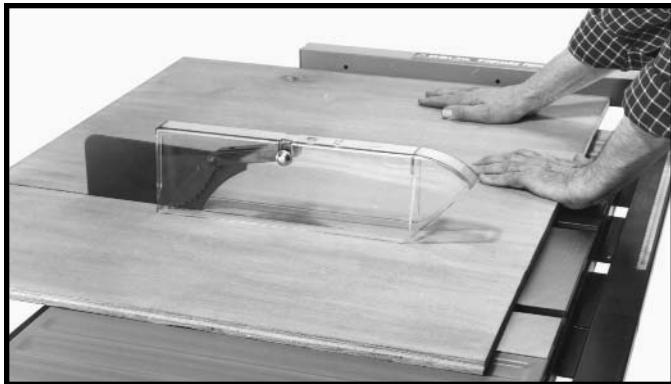

Fig. 49
Ripping is the operation of making a lengthwise cut through a board, as shown in Fig. 49, and the rip fence (A) is used to position and guide the work. One edge of the work rides against the rip fence while the flat side of the board rests on the table. Since the work is pushed along the fence, it must have a straight edge and make solid contact with the table. The saw guard must be used. The guard has anti-kickback fingers to prevent wood kickback, and a splitter to prevent the wood kerf from closing and binding the blade.
Start the motor and advance the work holding it down and against the fence. Never stand in the line of the saw cut when ripping. Hold the work with both hands and push it along the fence and into the saw blade as shown in Fig. 49. The work can then be fed through the saw blade with one or two hands. After the work is beyond the saw blade and anti-kickback fingers, the hand is removed from the work. When this is done the work will either stay on the table, tilt up slightly and be caught by the rear end of the guard or slide off the table to the floor. Alternately, the feed can continue to the end of the table, after which the work is lifted and brought back along the outside edge of the fence. The cut-off stock remains on the table and is not touched with the hands until the saw blade is stopped, unless it is a large piece allowing safe removal. When ripping boards longer than three feet, it is recommended that a work support be used at the rear of the saw to keep the workpiece from falling off the saw table.